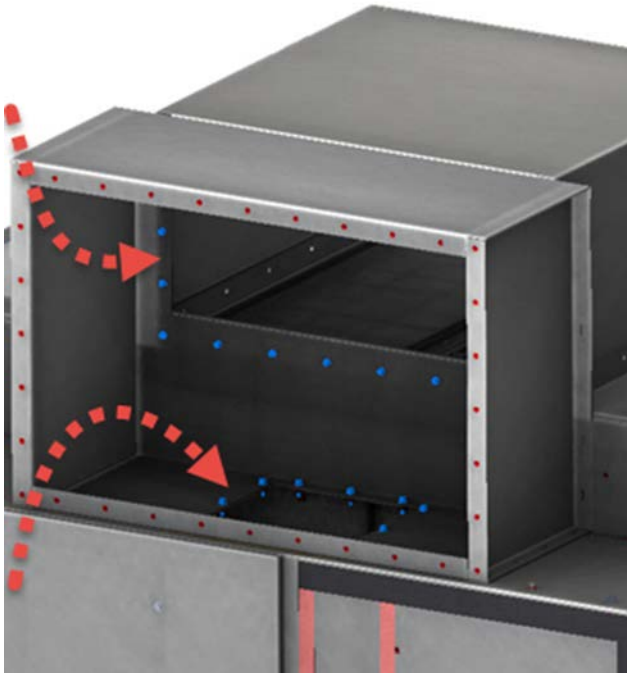

Figure 4: Secure the plenum with the supplied hardware
- Secure the Transition Frame Plenum to the SafeGear® plenum and the roof to the Transition Frame using the supplied hardware (Figure 4).